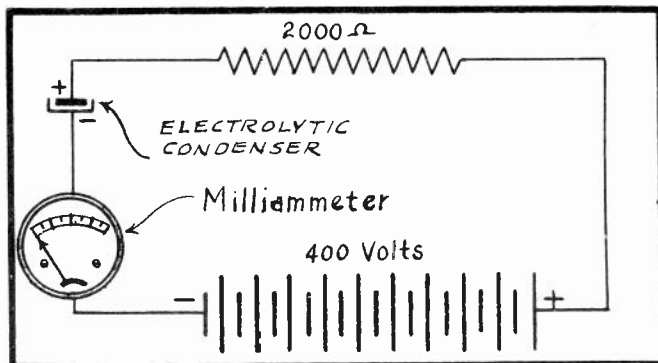

FIG. 1
1. - WHEN IN DOUBT AS TO THE CONDITION OF AN ELECTROLYTIC CONDENSER, THIS TYPE OF CONDENSER CAN BE TESTED BY MEANS OF THE CIRCUIT SHOWN IN FIG. 1.
3. - NOTICE IN FIG. 1 THAT A D.C. VOLTAGE OF ABOUT 400 VOLTS SHOULD BE AVAILABLE AND THIS CAN BE IN THE FORM OF SERIES CONNECTED "B" BATTERIES OR ANY FILTERED "B" POWER SUPPLY. THE POSITIVE END OF THE BATTERY MUST BE CONNECTED TO THE POSITIVE SIDE OF THE CONDENSER. THE 2000 OHM RESISTOR IS USED SOLELY AS A PRECAUTIONARY MEASURE IN ORDER TO PROTECT THE METER IN CASE THE CONDENSER SHOULD BECOME SHORT CIRCUITED.
5. - WITH THE CIRCUIT CONNECTED AS SHOWN IN FIG. 1, THE MILLIAMMETER SHOULD REGISTER A LEAKAGE CURRENT OF FROM 0.05 TO 0.5 MILLIAMPERE PER MICROFARAD. THAT IS, IF AN 8 MFD. CONDENSER IS BEING TESTED IN THIS MANNER AND THE LEAKAGE CURRENT IS FOUND TO BE ANYWHERE BETWEEN .4 AND 4 MILLIAMPERES, THEN THE CONDENSER CAN BE CONSIDERED AS BEING IN A GOOD CONDITION.